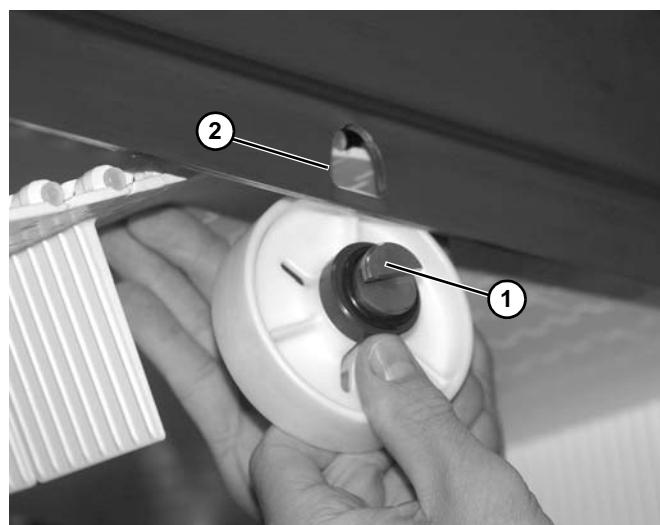

Figure 208
1. Remove the notched end of the return shaft (Figure 208, item 1) from the small hole (Figure 208, item 2) in the inside of the conveyor frame.